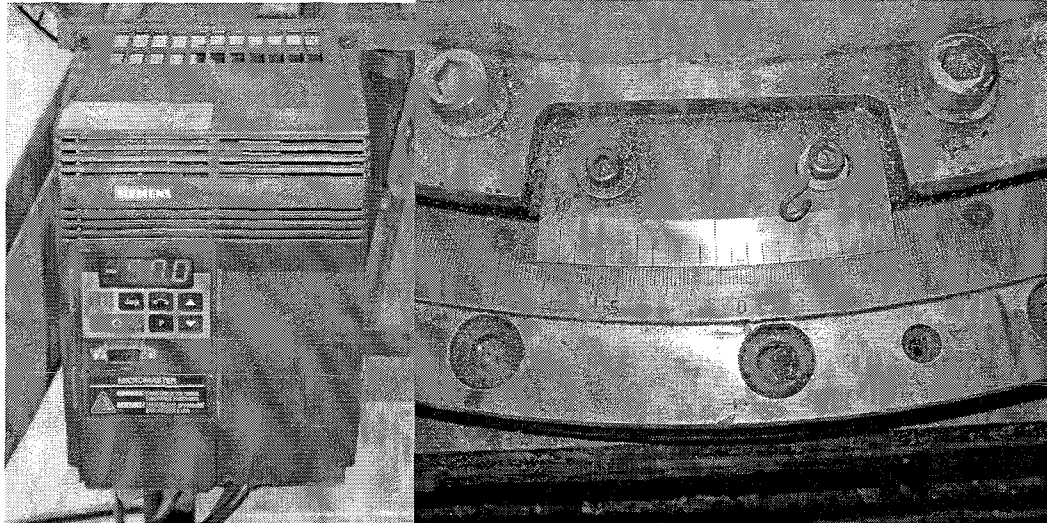

Figure 2.4: Control panel (left) and slip angle indicator (right)
2. Adjust side slip angle: the slip angle can be adjusted motorized or manually (nr 1 and 3 in figure 2.3). The slip angle can be read from the indicator on the front side of the machine (figure 2.4 (right) and nr 5 in figure 2.3).
This is one of the two control panels (figure 2.4 (left)). There is a red and a green button, which are used to start and stop a driving motor. The Jog button is to the motor turn very slow, which can be useful for positioning. The button with the arrow (top-third from left) is there to change the driving rotation of the motor. One can see the way the motor rotates in the display (-50 or +50 is shown default). Sometimes when the red button is pressed F002 is shown in the display. When this is shown, push the p button twice. Now in the display -50 or +50 will be shown. Pushing the green button can continue the experiment.